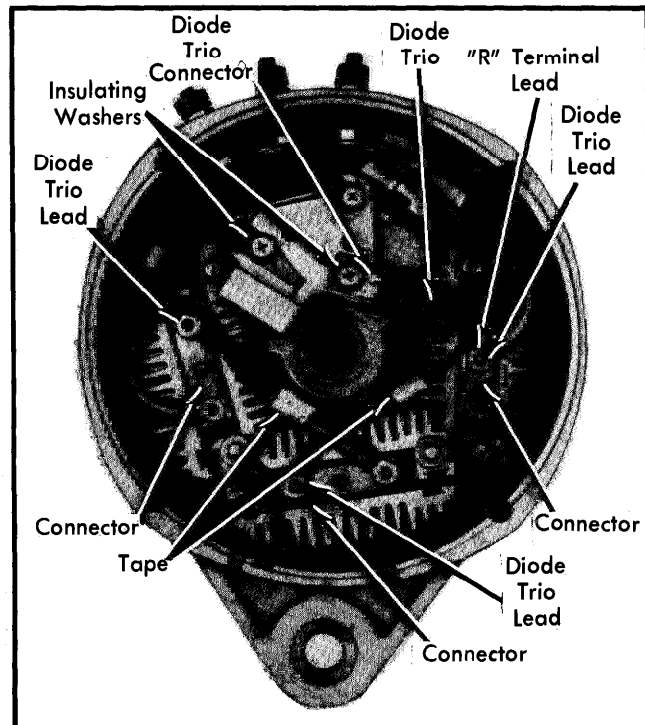

Fig. 10 Components of Slip Ring End Frame (100 Amp. Heavy-Duty Alternator)
4) Install screw with lock and flat washers, securing bridge to end frame and tighten screw. Tighten 2 nuts just installed. Install connector strap to each bridge. Install insulator at inside of end frame for A.C. terminal studs, and position diode trio and A.C. terminal leads. See Fig. 10.